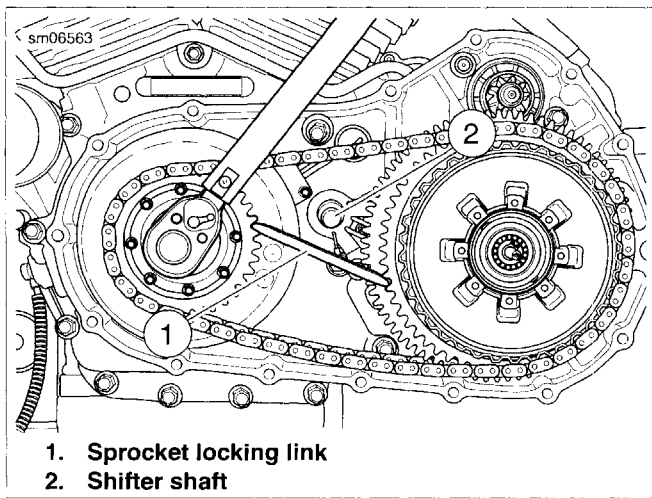

Figure 5-19. Tighten Engine Sprocket Fastener (typical)
See Figure 5-19. In the next step, you will be positioning the SPROCKET LOCKING LINK (883 CC) (Part No. HD-38362) or PRIMARY DRIVE LOCKING TOOL (1200 CC) (Part No. HD-46283) (1) on the engine and clutch sprockets. Make sure you do not position the sprocket locking link too close to the shifter shaft (2). If the sprocket locking link contacts the shifter shaft while you are exerting force to tighten the engine sprocket nut, the sprocket locking link may damage the shifter shaft and/or the engine crankcase.
- See Figure 5-19. Install SPROCKET LOCKING LINK (883 CC) (Part No. HD-38362) or PRIMARY DRIVE LOCKING TOOL (1200 CC) (Part No. HD-46283).